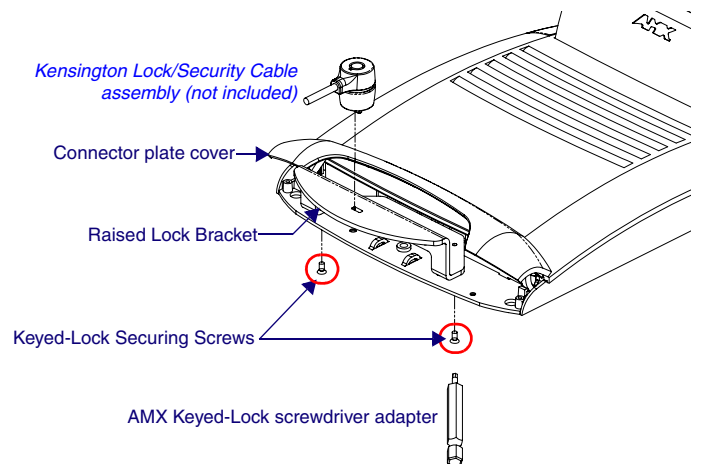

FIG. 3 Raised Kensington Lock Bracket Components and Installation
2. Insert two Keyed-Lock Securing Screws into their respective locations (FIG. 3).